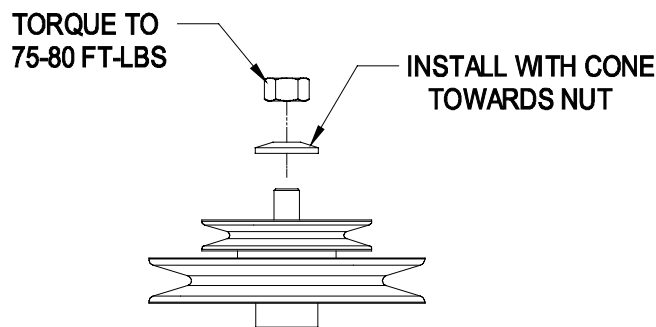

FIGURE 7
7. Install the double sheave (Item 23) onto the right spindle shaft. Install the spring disk washer and nut removed in Step 5. Torque the sheave nut to 75-80 ft. lbs. Make sure that the spring disk washer cone is installed towards nut. See Figure 7.